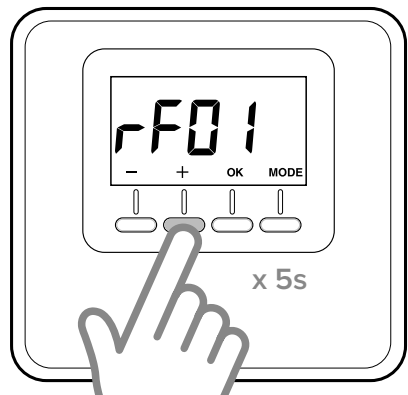

Fig. 18
- Hold “+” down for 5 seconds again to enter the technical parameters menu; parameter “rF01” will display (Fig. 18)